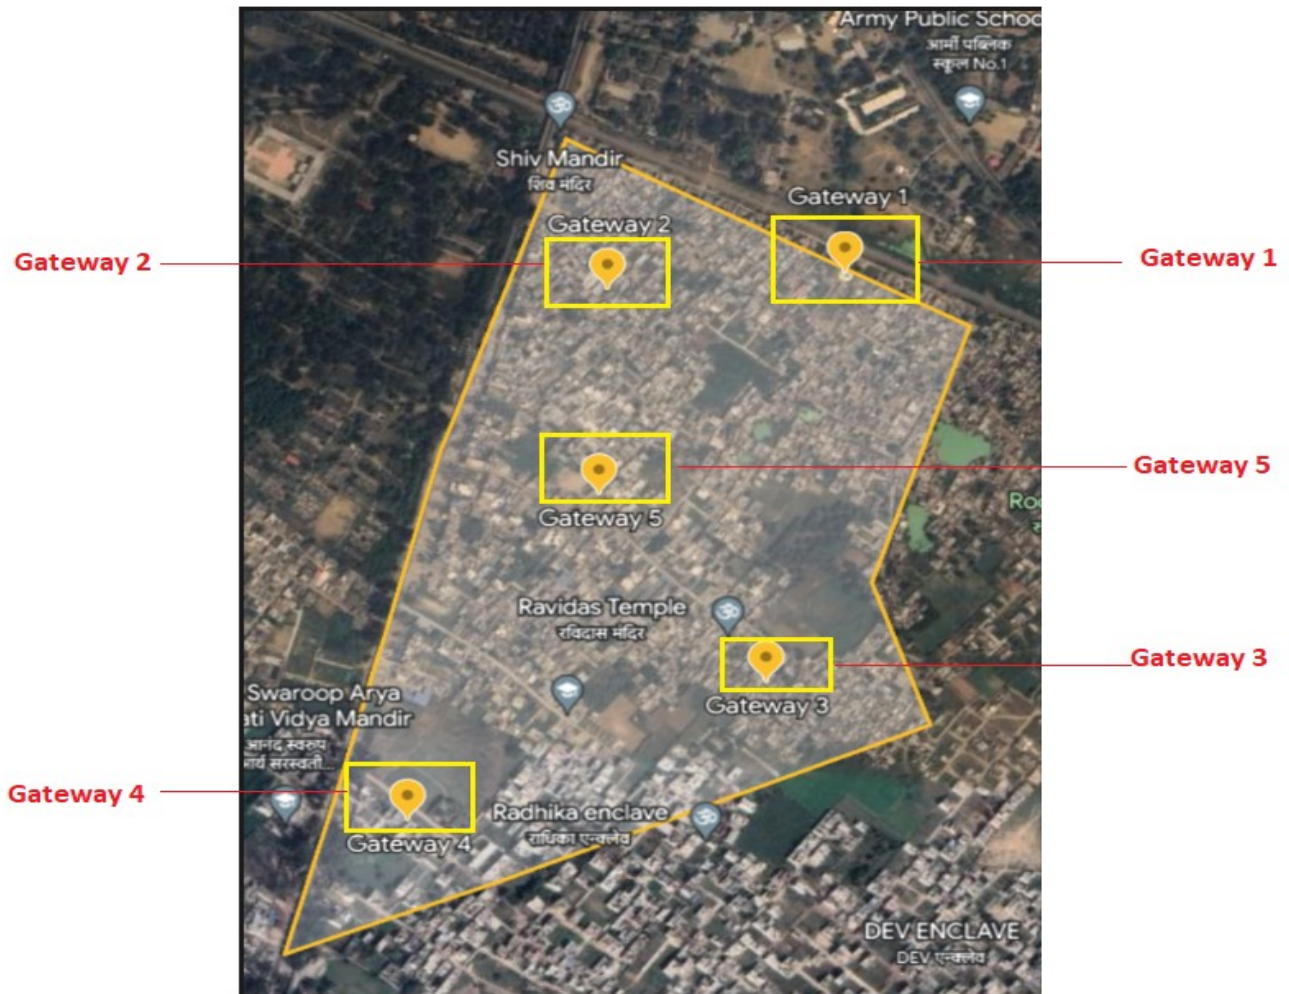

Figure 9: LoRa Gateway Locations.
- After the RF site survey analysis, we have estimated that client need to install the total 5 gateway to cover the entire 1300 Water AMR devices as shown in figure 9.
- From the noise floor data all the gateways must require to be installed with Avartanam filter on mentioned location in Figure 9.